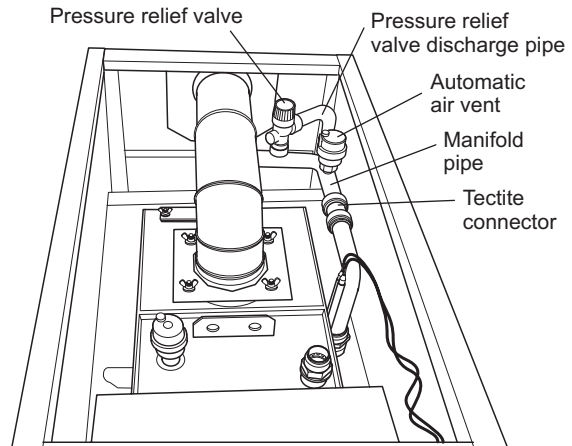

Fig. 18 - 50/70 top view (showing automatic air vent, pressure relief valve and manifold)
See Figs. 18 and 19
- 7 Fit the pressure relief valve and automatic air vent onto the manifold pipe. Then fit the manifold pipe end into the 22mm compression connector on the boiler flow pipe. Refer to Fig. 18.